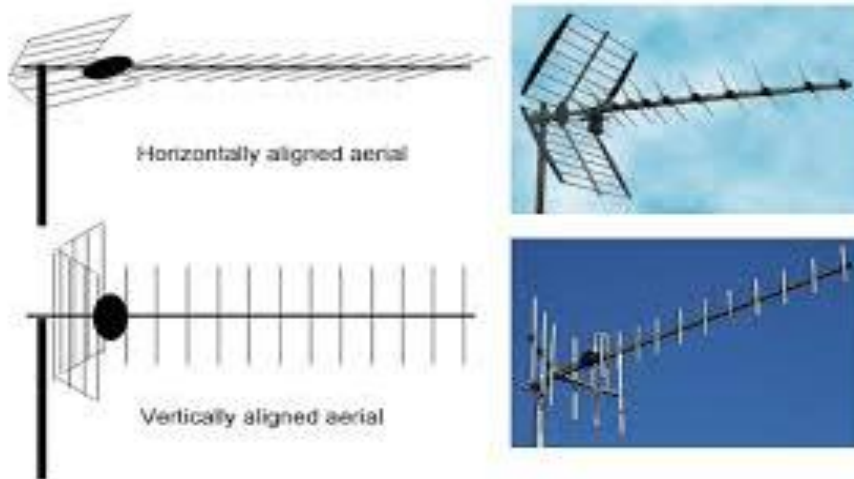

Figure 1: Antenna polarisation (Horizontal and Vertical).
- 2.4.6. Antenna polarization can be changed by changing the horizontal orientation of the antenna as indicated in Figure 1 below.